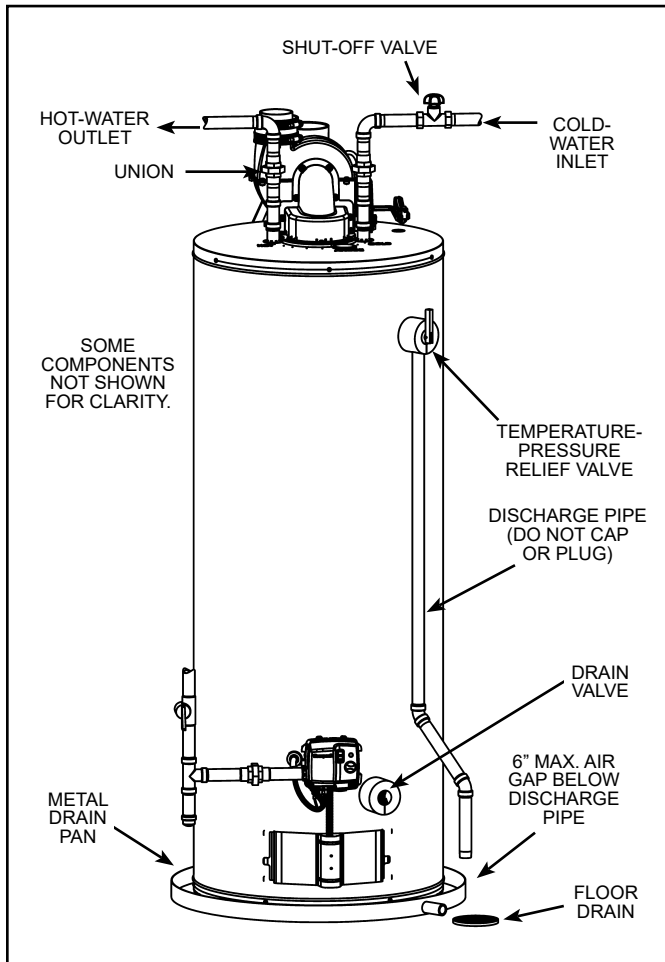

Figure 17.
1. Close the water heater drain valve by turning handle to the right (clockwise). The drain valve is on the lower front of water heater (see Figure 17).